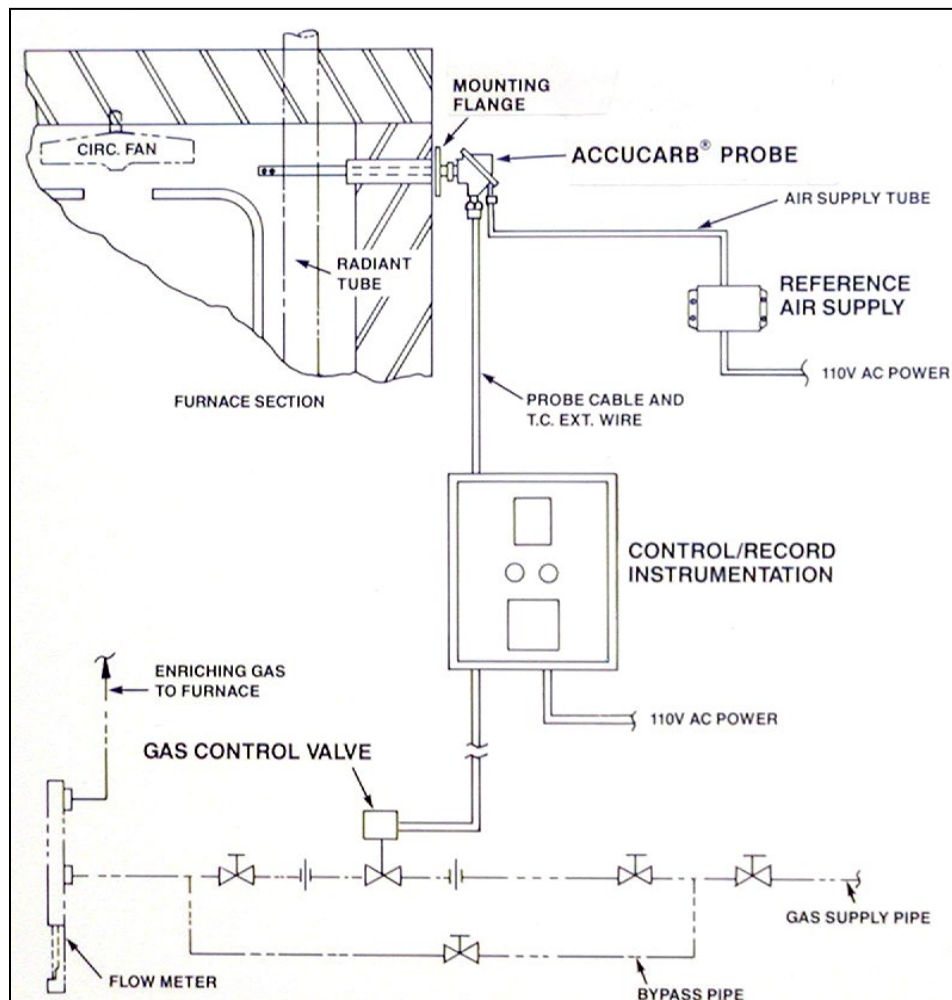

Figure 1 – Typical carbon control system
Congratulations, you have purchased the newest and technologically most advanced zirconia probe on the market. The NitroCarb probe, manufactured by UPC-Marathon is intended to be used with carbon control systems to control the carbon potential of an endothermic, nitrogen/methanol, and nitrocarburizing based atmospheres. A typical control system, shown in Figure 1, has three functional sections: (1) NitroCarb Carbon Probe, furnace flange and reference air supply; (2) control and recording instrumentation; and (3) enriching gas control valve. This manual pertains only to components in functional section 1, which are shown in Figure 1